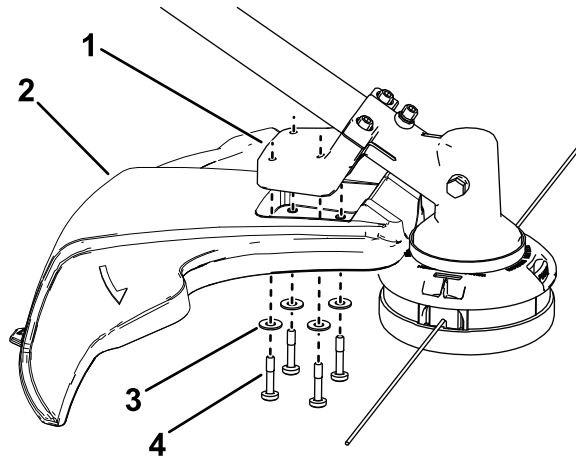

Figure 3
1. Align the trimmer guard beneath the guard mount as shown in Figure 3.
2. Secure the guard to the trimmer using the 4 washers and 4 bolts as shown in Figure 3.